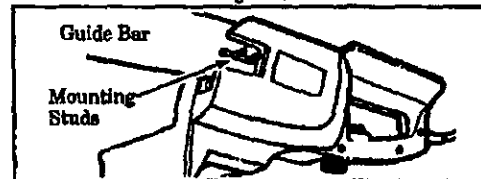

Figure 7
- Mount the guide bar by placing the slotted end over the mounting studs. Figure 7.